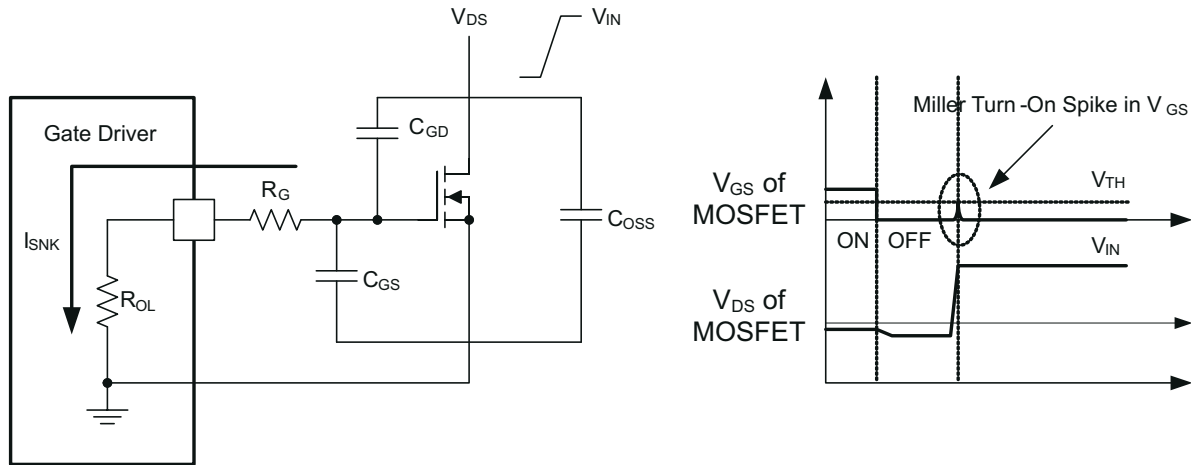

図 7-3. Low Pull-Down Impedance in UCC27614 (Output Stage Mitigates Miller Turnon Effect)
An example of a situation where Miller turnon is a concern is synchronous rectification (SR). In SR application, the dV/dt occurs on MOSFET drain when the MOSFET is already held in OFF state by the gate driver. The current charging the C_{GD} Miller capacitance during this high dV/dt is shunted by the pulldown stage of the driver. If the pulldown impedance is not low enough then a voltage spike can result in the V_{GS} of the MOSFET, which can result in spurious turnon. This phenomenon is illustrated in Figure 7-3.